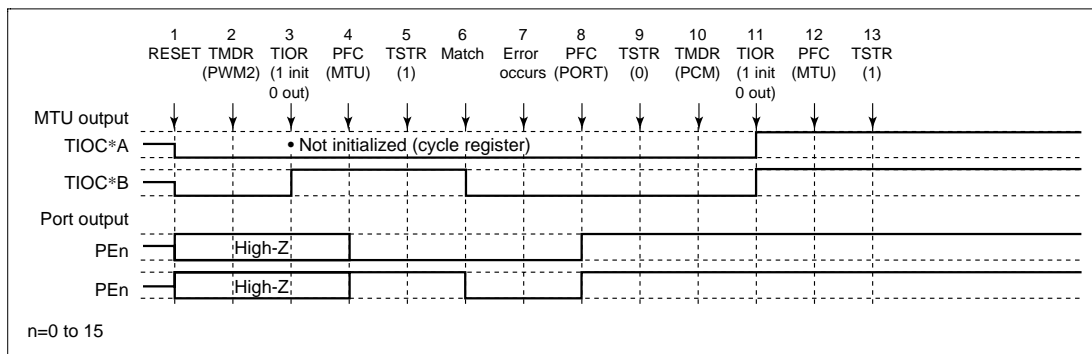

Figure 12.111 Error Occurrence in PWM Mode 2, Recovery in Phase Counting Mode
(16) Operation when Error Occurs during PWM Mode 2 Operation, and Operation is Restarted in Phase Counting Mode: Figure 12.111 shows an explanatory diagram of the case where an error occurs in PWM mode 2 and operation is restarted in phase counting mode after re-setting.